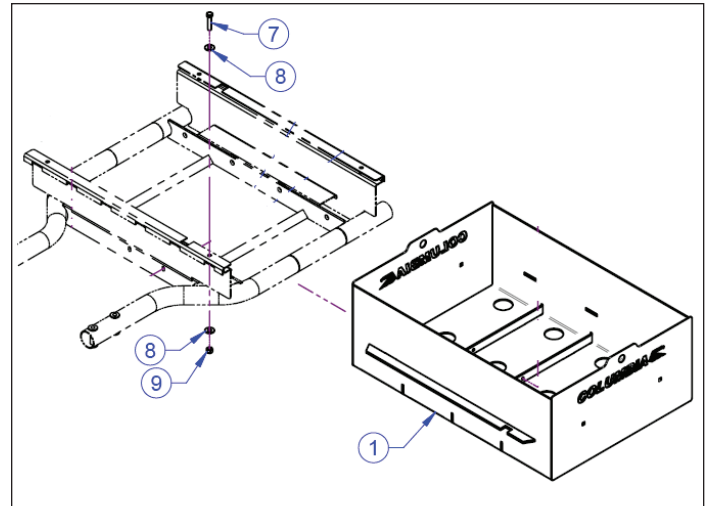

Figure 9-11. Battery Box
2. Remove 4 nuts (9), 8 flat washers (8), 4 bolts (7) and battery box (1). See Figure 9-11.